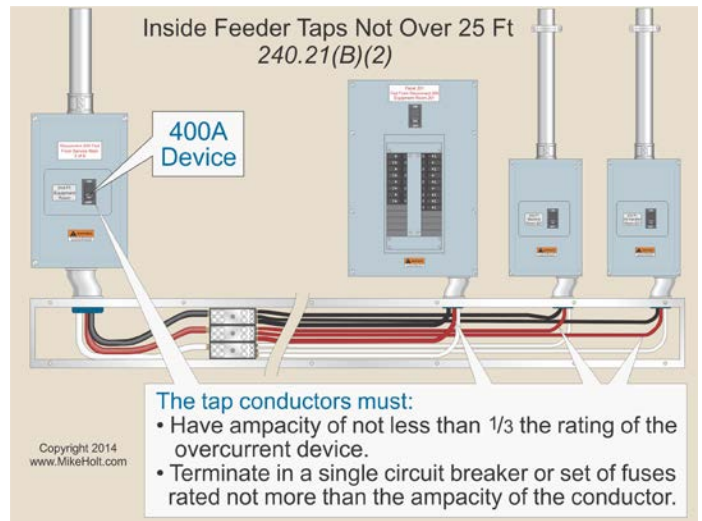

Figure 240–25
(2) 25-Foot Feeder Tap. Feeder tap conductors up to 25 ft long are permitted without overcurrent protection at the tap location if the tap conductors comply with the following: Figures 240–25 and 240–26